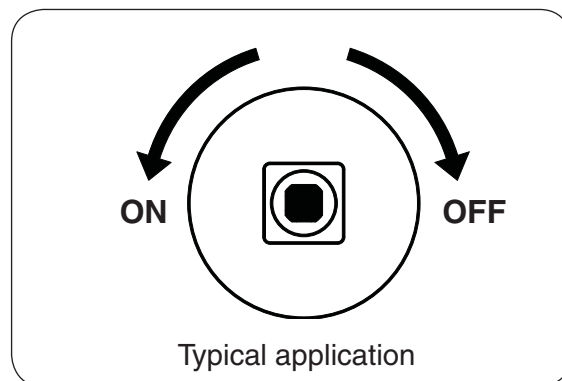

Fig. 17-2
4. **Once the match is burning and in position**, slowly turn the key valve counter-clockwise toward the **ON** position until it no longer rotates (see Fig. 17-2). Your burner should light.
To extinguish your gas burner, turn the key valve clockwise toward the **OFF** position until it no longer rotates (see Fig. 17-2). Be sure the key valve is turned fully off to avoid any gas leakage.